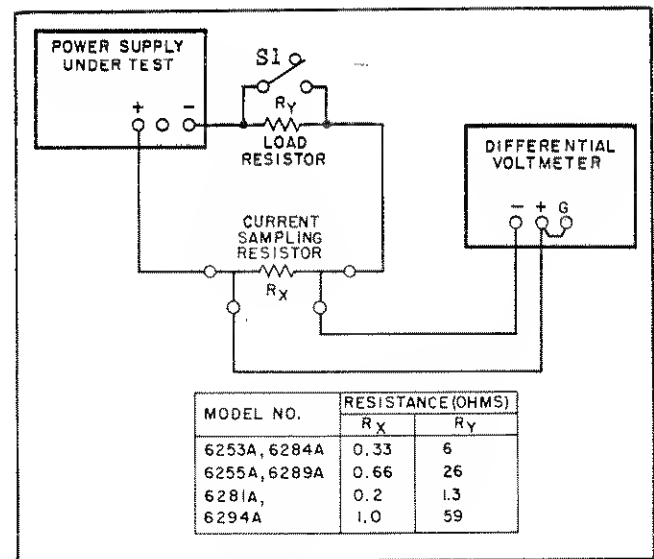

Figure 5-4. Output Current Test Setup
a. Connect test setup as shown in Figure 5-4 leaving switch S1 open.
- a. Connect test setup as shown in Figure 5-4.